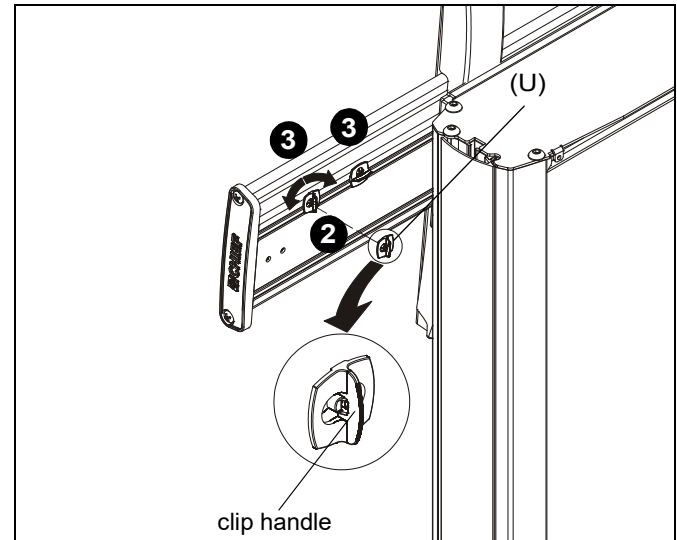

Figure 19
1. Place FCA clip (P) into groove on back of Fusion mount with clip handle in a vertical position. (See Figure 19)
2. Rotate FCA clip (P) 90° in either direction until clip handle is in a horizontal position. (See Figure 19)